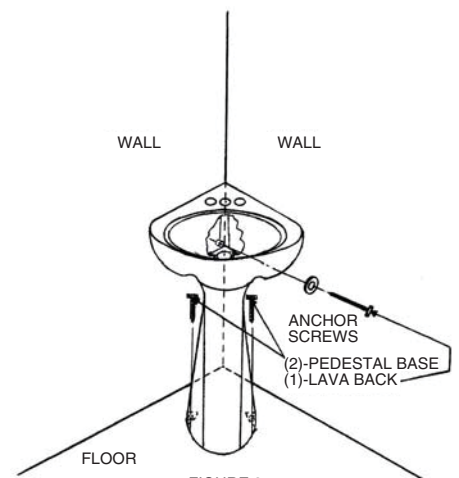

FIGURE 3
7. Position the pedestal leg by using the recess indentation on the underside of the lavatory as a guide. The back side of the leg should be vertical and away from the wall surface. See **FIGURE 3**.
Reset the lavatory and anchor to the wall using the bolt provided with the lavatory. Hole for anchoring is located on the bottom of the lavatory near the back corner as shown in **FIGURE 3**.